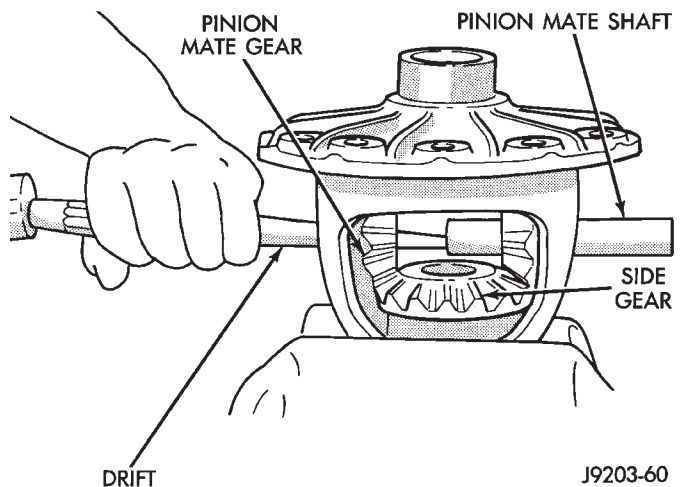

Fig. 30 Mate Shaft Removal
(5) Remove the mate shaft with a drift and hammer (Fig. 30).